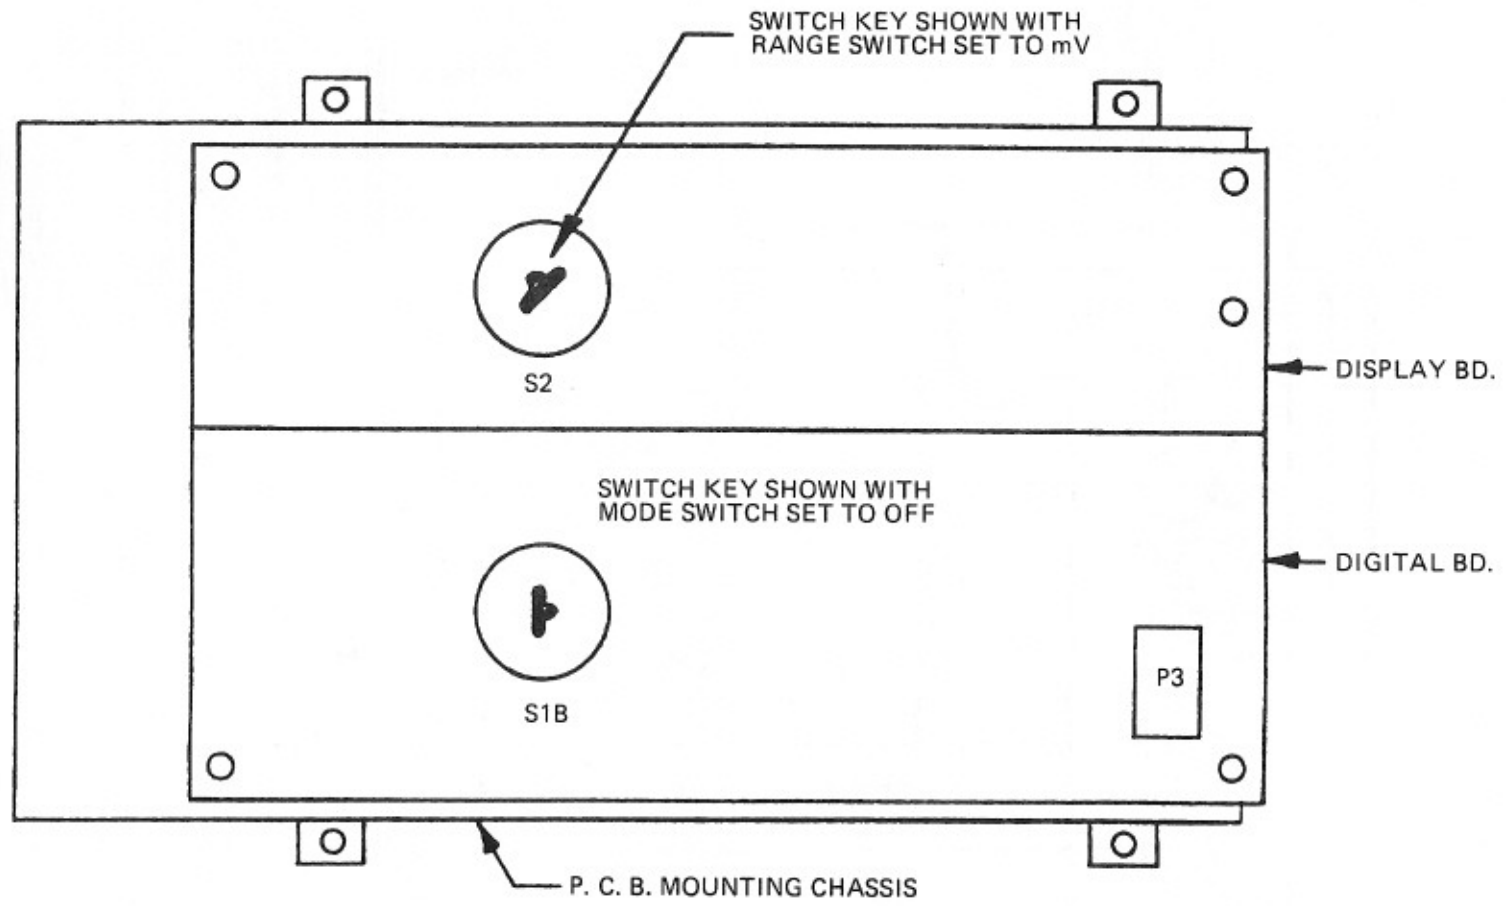

Figure 4-3. Switch Key Alignment on Digital Display Board
7. The Digital/Display board can now be removed. When re-installing, make sure that the switch keys are aligned as shown in Figure 4-3. The front panel controls must be set to OFF mode and mv range.